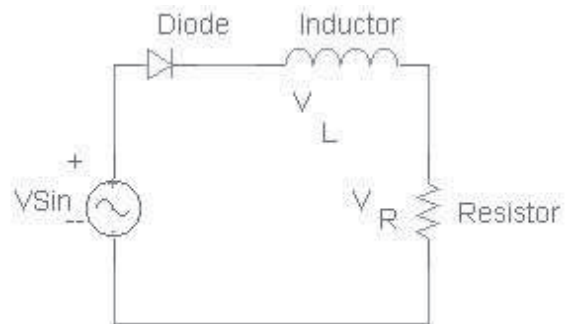
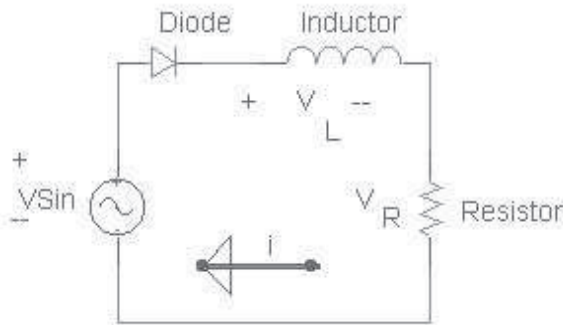

FIGURE 2.11 Circuit diagram.
FIGURE 2.12 Current rising,  $0 < \omega t < \pi/2$ .
**Circuit Operation** A circuit with a single diode and a very common RL load is shown in Fig. 2.11. The source  $V_S$  is an alternating sinusoidal source. Suppose  $V_S = E_m \sin(\omega t)$ .  $V_S$  is positive when  $0 < \omega t < \pi$ , and is negative when  $\pi < \omega t < 2\pi$ . When  $V_S$  starts to become positive, the diode begins conducting and the positive source keeps the diode in conduction until  $\omega t$  reaches  $\pi$  radians. At that instant (defined by  $\omega t = \pi$  radians), the current through the circuit is not zero and there is some energy stored in the inductor. The voltage across an inductor is positive when the current through it is on the increase and it becomes negative when the current through it tends to fall. When the voltage across the inductor is negative, it is in such a direction as to forward bias the diode. The polarity of voltage across the inductor is as shown in Figs. 2.12 and 2.13.
The value of constant  $A$  in the complementary solution is to be calculated. The particular solution is the steady-state response and Eq. (2.8) expresses it. The steady-state response is the current that would flow in steady-state in a circuit that contains only the source, the resistor, and the inductor as shown in the circuit in Fig. 2.11, where the only element missing is the diode. This response can be obtained using the differential equation, the Laplace transform, or the ac sinusoidal circuit analysis. The total solution is the sum of both the complementary and the particular solution. It is shown in Eq. (2.9). The value of  $A$  is obtained using the initial condition. As the diode starts conducting at  $\omega t = 0$  and the current starts building up from zero,  $i(0) = 0$ . The value of  $A$  is expressed by Eq. (2.10).